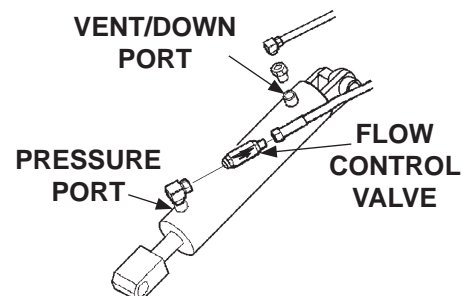

FIG. 69-3
2. Check the hydraulic cylinder. With the platform on the ground, remove the breather plug or vent line from the vent/down port of the cylinder (FIG. 69-3). Raise the platform even with the bed. Allow pump motor to run two seconds more while you watch for hydraulic fluid at the vent/down port. A few drops of hydraulic fluid escaping the vent/down port is normal; however, if it streams from the vent/down port, piston seals are worn. Replace seals.
3. Check and clean flow control valve in high pressure hydraulic line attached to cylinder. When installing flow control valve, make sure arrow on valve is oriented as shown in FIG. 69-3.